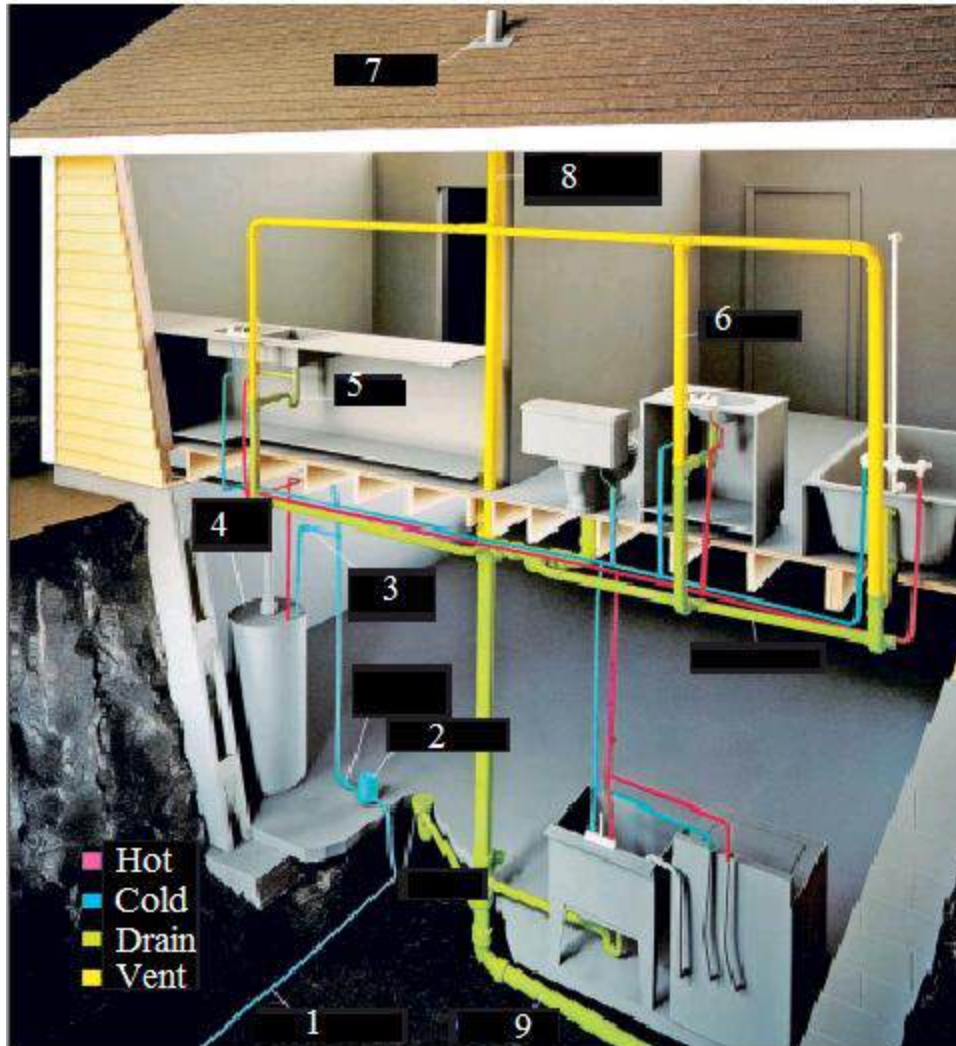

Figure 2.1 Building water System
A typical home plumbing system includes three basic parts: a water supply system, a fixture and appliance set, and a drain system. These three parts can be seen clearly in the Figure 2.1. Fresh water enters a home through a main supply line (1). The fresh is provided by either a municipal water company or a private underground well. This fresh water passes through a meter (2) that registers the amount of water used. Immediately after the main supply enters the house, a branch line splits off (3) and is joined to a water heater (4). From the water heater, a hot water line runs parallel to the cold water line to bring the water supply to fixtures and appliances throughout the house. Fixtures include sinks, bathtubs, showers, water closet, lavatory, and bidet. Appliances include water heaters, dishwashers, clothes washers, and water softeners. Toilets and exterior sill cocks are examples of fixtures that require only a cold water line. The water supply to fixtures and appliances is controlled with faucets and valves. Faucets and valves have moving parts and seals that eventually may wear out or break, but they are easily repaired or replaced. Waste water then enters the drain system flow through a drain trap (5). Every fixture must have a drain trap. The drain system works entirely by gravity, allowing waste water to flow downhill through a series of large diameter pipes. These drain pipes are attached to a system of vent pipes (6). The vent pipes bring air into the drain system to prevent suction or pressure that might allow the trap to lose its water seal. Vent pipes usually exit the house at a roof vent (7). All waste water eventually reaches a drainage stack or a building drain (8). And 9 is the total waste drainage system.